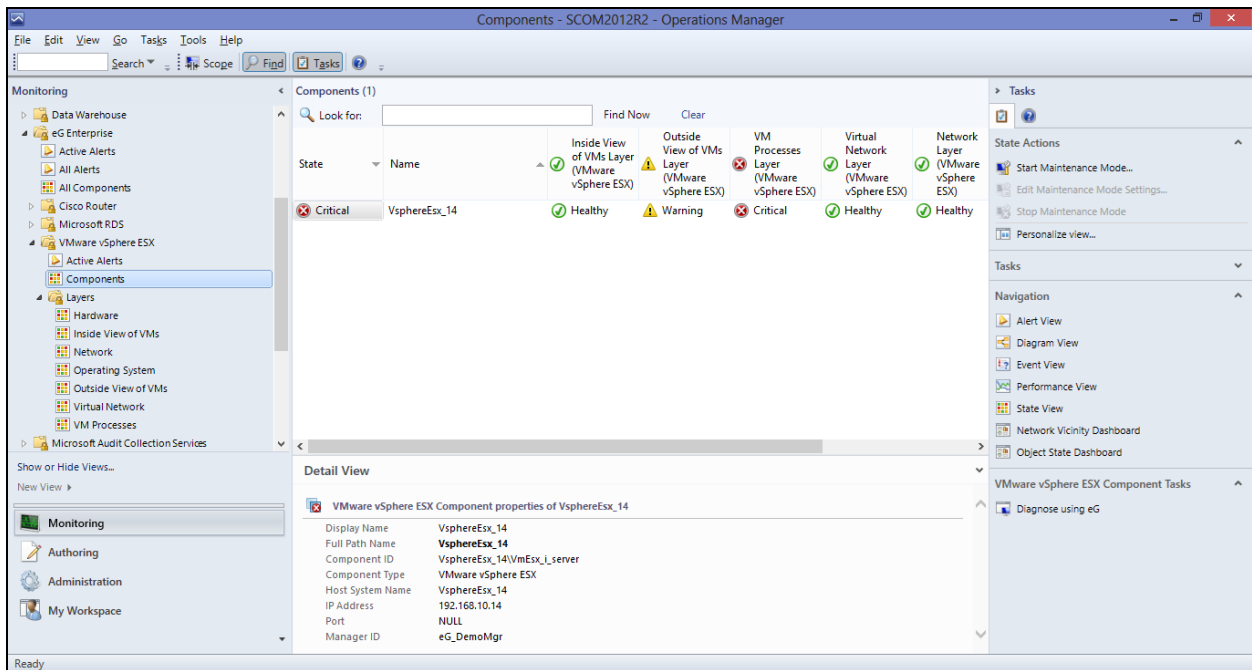

Figure 4.17: Viewing the managed components of type VMware vSphere ESX and their current state
7. Next, if you want to know which components of type **VMware vSphere ESX** are currently managed and what their current states are, click on the **Components** sub-node under the **VMware vSphere ESX** node. You will then view the complete list of managed **VMware vSphere ESX** components and their current states in the right panel (see Figure 4.17).